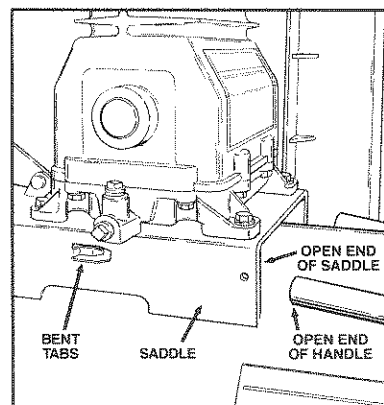
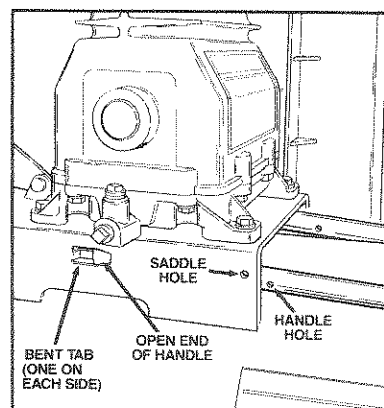

FIG. 1
FIG. 2
1. Insert the open end of the handle under the saddle (Fig. 1). Before attaching handle, you may have to pull the open ends of the handle apart so they fit tightly against the side of the saddle. Looking in from the open end of the saddle, position the handle towards the two bent tabs, on the inside walls of the saddle. *Slowly* push the open ends of the handle onto both tabs at the same time (Fig. 2). Continue pushing the handle into the saddle until the holes on the side of the saddle and handle are in line.